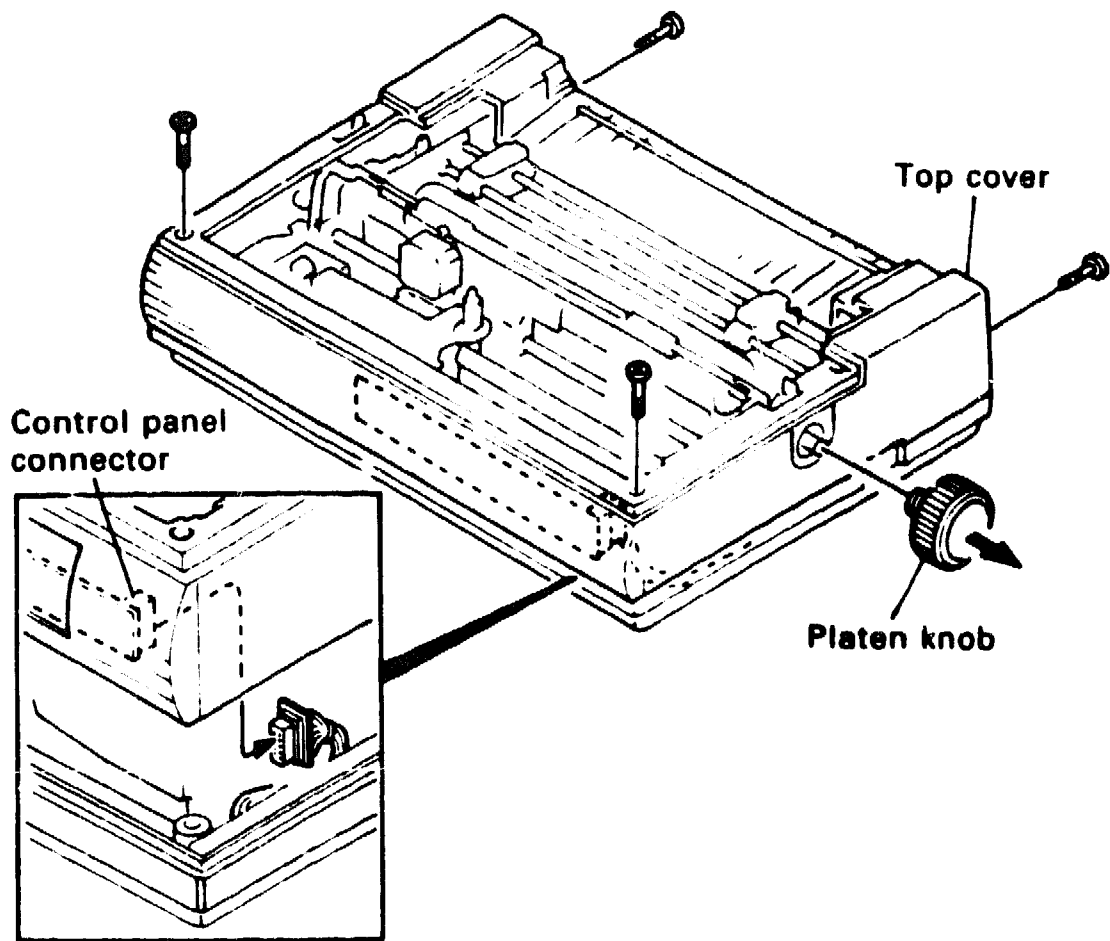

Figure 6-14 Removing the Top Cover
2. Pull off the platen knob (Figure 6-14).
4. Remove the two screws at the front of the top cover (Figure 6-14).
5. Remove the two screws at the rear of the printer (Figure 6-14).
6. Carefully pull the back of the top cover away from the printer and unplug the control panel connector from the inside front of the cover (Figure 6-14).